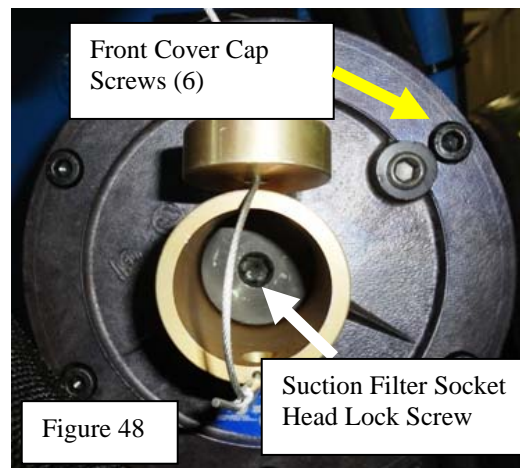

Figure 48
3. Turn socket head cap screw (Figure 48) out counterclockwise (OUT) till it stops.
4. Turn the six front cover cap screws (Figure 48) out counterclockwise and lift off the front cover.
8. Turn socket head cap screw (Figure 48) in clockwise till it stops.